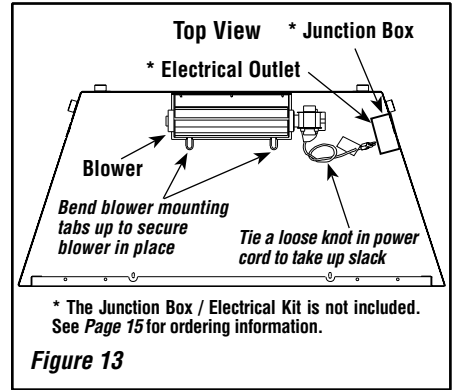

Figure 13
**Step 5.** Plug power cord into the electrical outlet as illustrated in **Figure 13**.